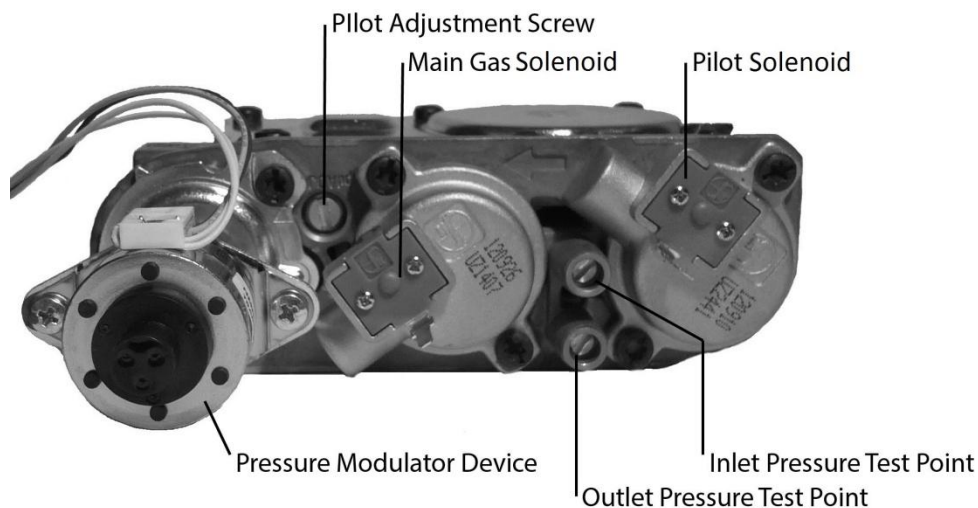

Figure 25: Valve
2. Locate the inlet and outlet test points on the valve which can be seen in Figure 25. After locating test ports loosen the screws within the ports using a flat-tip screwdriver.
The pilot flame level can be adjusted by turning the adjustment screw, using a flat-tip screwdriver, seen on the valve in Figure 25.